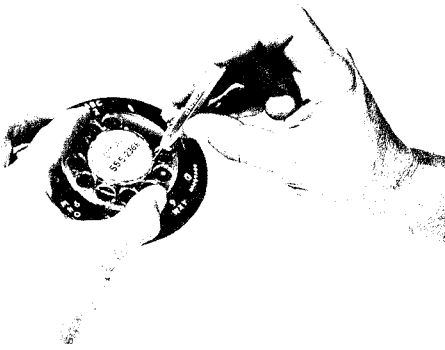

Fig. 4— Removing Plastic Fingerwheel
(1) Rotate fingerwheel as far as possible in clockwise direction.
(2) Insert KS-16750, List 2 releaser into small hole located in edge of raised center of fingerwheel (Fig. 4) and push down to disengage the fingerwheel clamp spring.
(3) When clamp spring releases, remove fingerwheel.